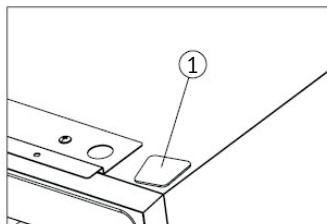

Figure 4
- ➲ Install the germinal lid ① (Figure 4).